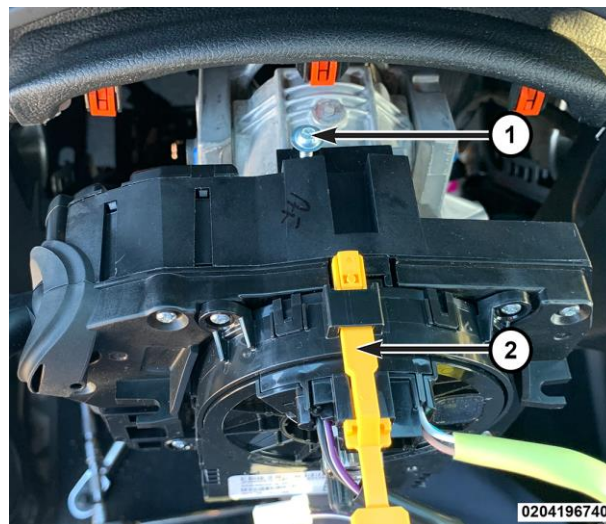

Figure 13 – SCCM Screw
24. Remove the screw (1) (Figure 13).
4. Install and securely tighten the screws (1) (Figures 13 & 14).